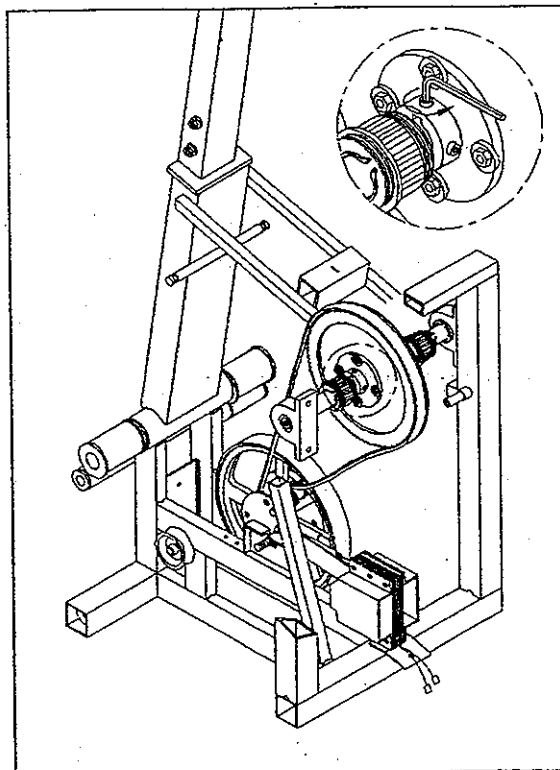

Fig 19-2.
- 6-2. If the gap need to be adjusted, use a hex Allen wrench to release both sides of the gear shaft screws, adjust the gear wheel until the correct gap shows, then secure both screws (see Fig. 19-2).